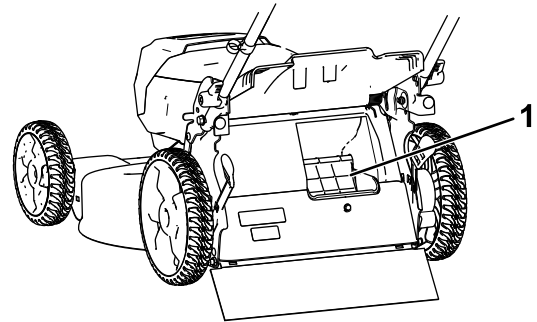

Figure 14
**Important:** For proper operation, remove any grass clippings and debris from the bag-on-demand door and the surrounding opening (Figure 14) before you move the bag-on-demand lever from 1 position to another.